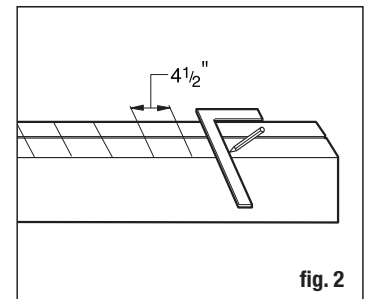

fig. 2
Step 2: Cut top and bottom rails (2x4s) to length and clamp together. Mark top and bottom rails 4-1/2" on-center, starting from the center of the rail (fig. 2).
Step 2: Clamp the top and bottom rails together with the top 2x4 rail inverted. Position rails as shown and mark 5-1/2" on-center, working from the center out to the ends of the rails (fig. 2).